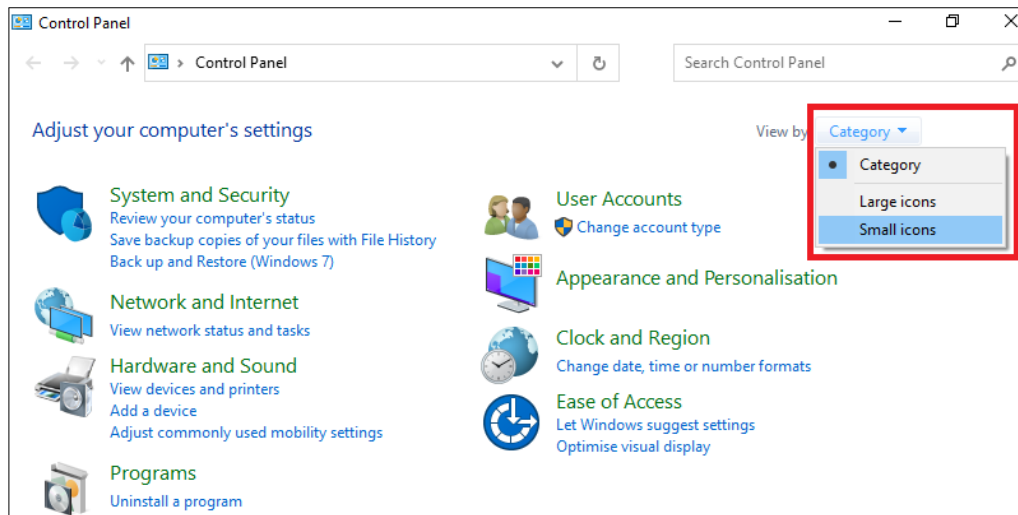

Figure 22: "Control Panel" dialogue
- 2 Switch the dialogue's interface to "Small icons" (see Fig. 22),